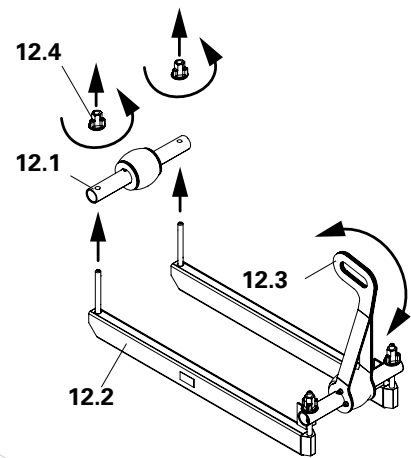
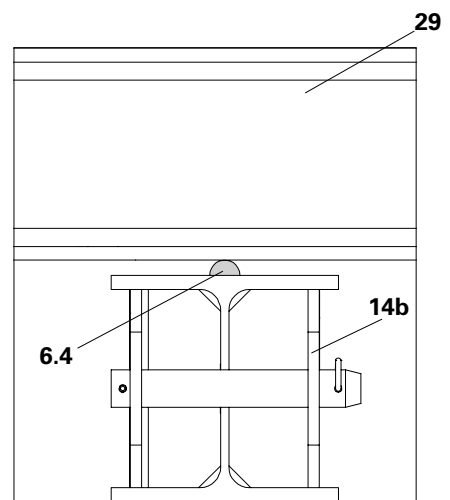

Fig. A7.03
Fig. A7.05
1. Remove cross tube (12.1) from the trolley (12). (Fig. A7.03)
2. Push the trolley (12) under the longitudinal beam (29) on the Main Beam HDT (14b) and fix the cross tube (12.1).
4. Push the lever (12.3) downwards, the longitudinal beam (29) is then lifted approx. 5 mm.
5. If installed, remove centring bars (6.4). (Fig. A7.05)